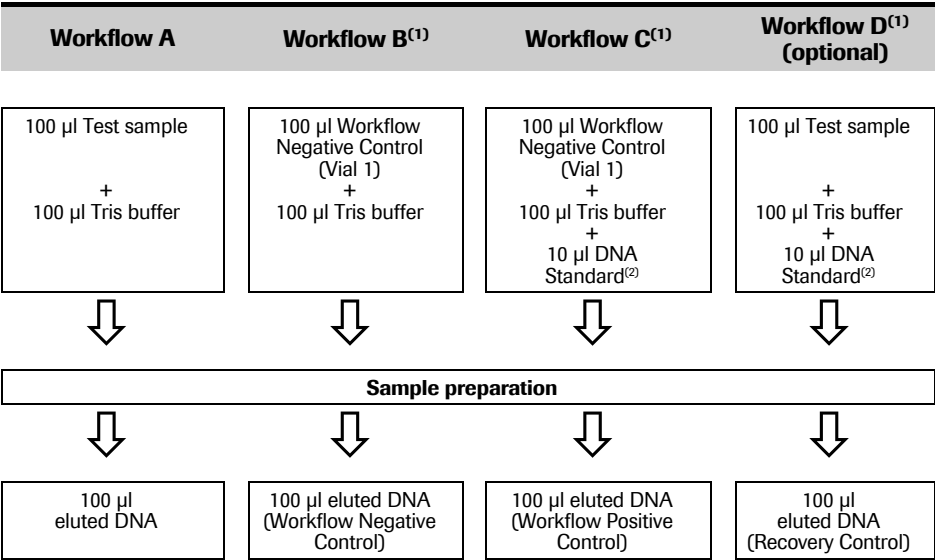

Fig. 1: Experimental overview of the Sample preparation.
Figure 1 describes the protocol for preparing DNA from the 100 µl test sample. Use Workflow A for each test sample to be analyzed.
- 2** Label 4 Reagent Vials[#] for each workflow according to the Figure 1. In each Reagent Vial[#], add 100 µl 1 M Tris buffer for pH correction (pH 7.5):